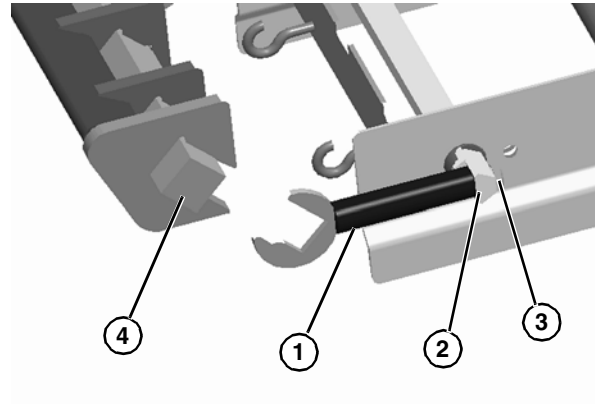

Figure 21
1. Place the nose bar idler shafts (**Figure 21, item 1**) against the holes in the hex shaft assembly (**Figure 21, item 2**) and secure each with a bolt (**Figure 21, item 3**).
2. Attach the nose bar transfer post (**Figure 21, item 4**) to the nose bar idler shafts.